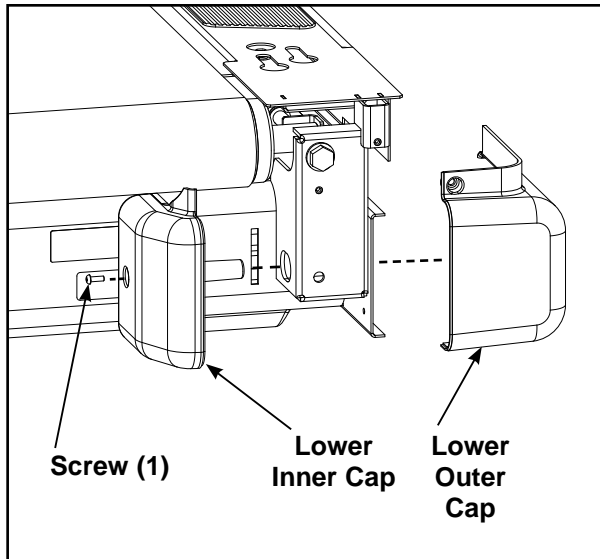

Figure 6
- D. Using a Phillips screwdriver, remove the screw securing each of the lower inner caps to the lower outer caps See Figure 6.